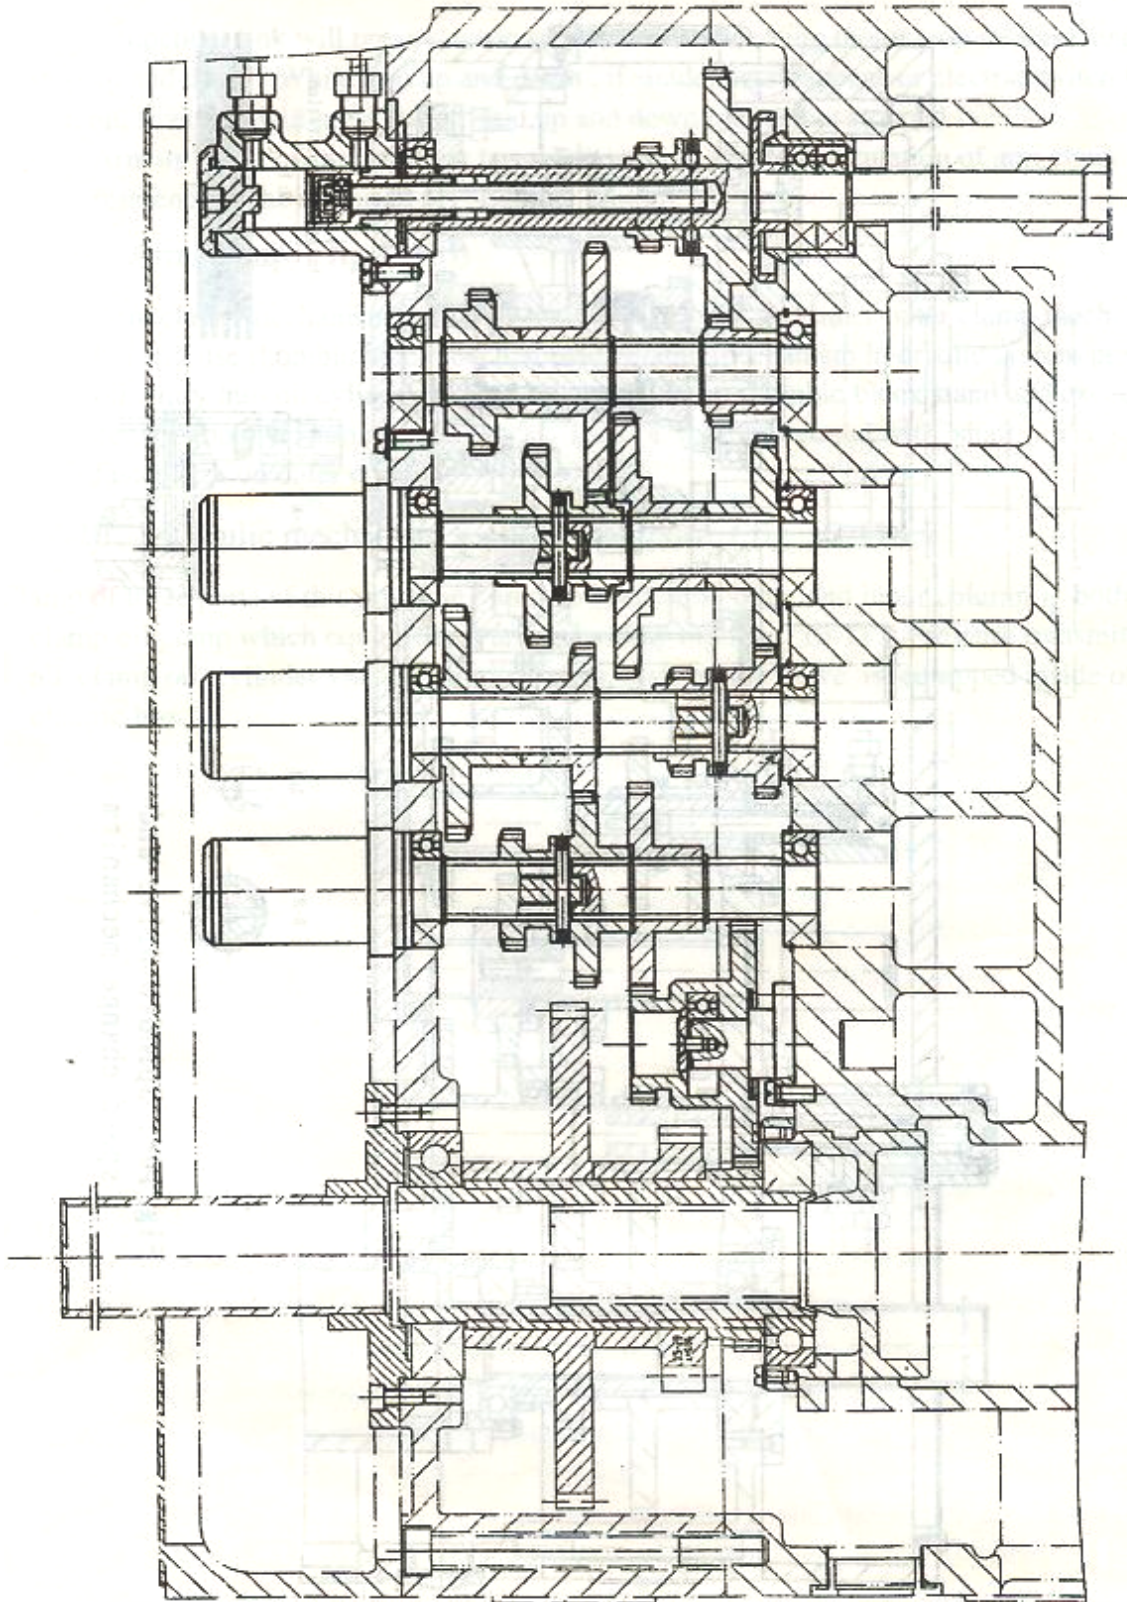

Fig. 10-2 Spindle feed speed change mechanism
2、 Spindle feed speed change transmission mechanism . (fig.10-2)